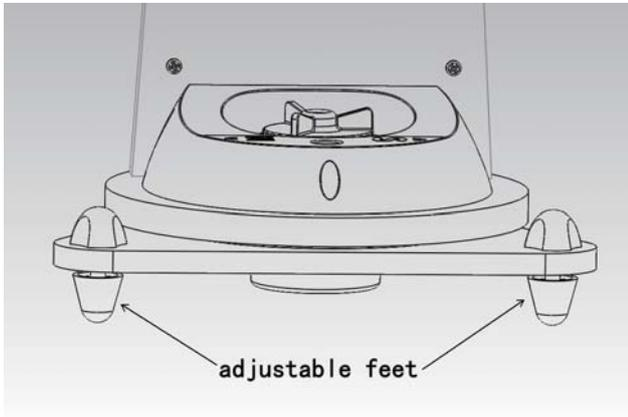

Figure 1
1. Place the mount on a flat surface. For astronomical usage, place a bubble leveler on the base and adjust the 2 adjustable feet to level the base (Figure 1).